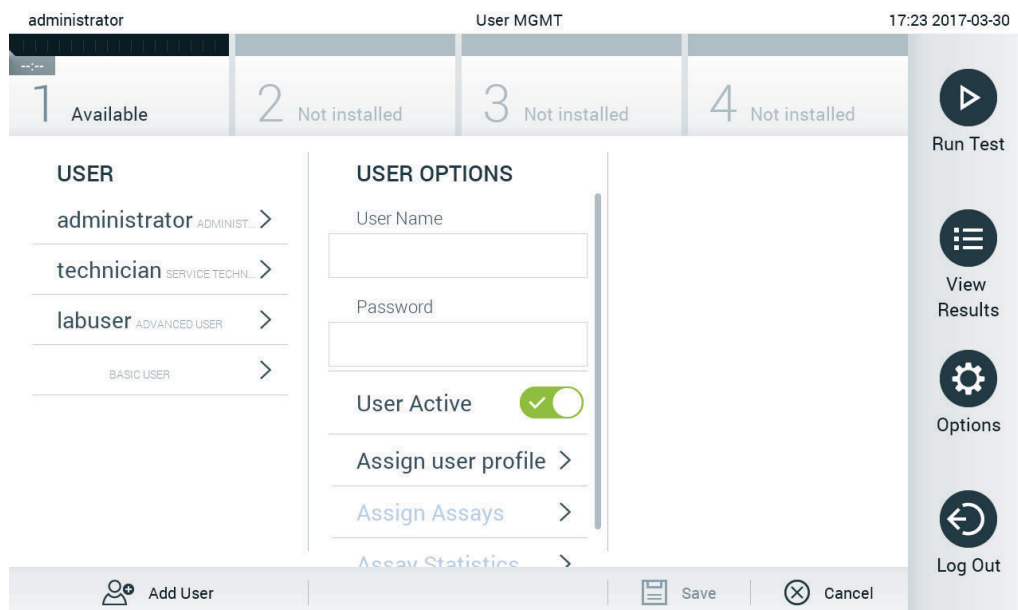

Figure 56. Adding a new user.
1. Press the **Options** button and then the **User Management** button to configure users. The **User Management** screen appears in the content area of the display (Figure 56).